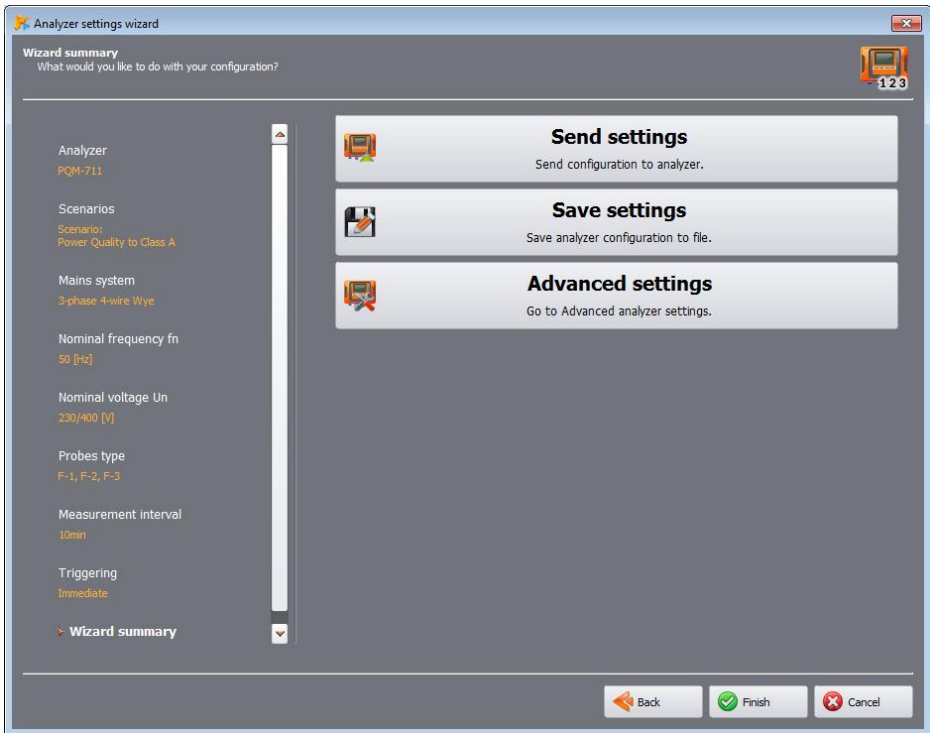

Fig. 15. Settings wizard – summary.
- **WIZARD SUMMARY** – the last step of the wizard (Fig. 15) allowing user to send the created settings to the analyzer (click **SEND SETTINGS**). If the analyzer is not connected, the selection and connection procedure will be started (sec. 2.1), and then the settings will be sent. Note: The entire contents of the memory will be deleted. The wizard as default uses **CONFIGURATION 1** of the analyzer; it also reserves for it the entire analyzer memory space. The setting created with the Wizard may be saved on the disk for later use as a file *.settings (option **SAVE SETTINGS**). Alternatively, you can select **ADVANCED SETTINGS**, where the initial settings may be viewed and modified and then sent to the analyzer (window **ANALYZER SET UP**, will be shown as in sec. 3.2).